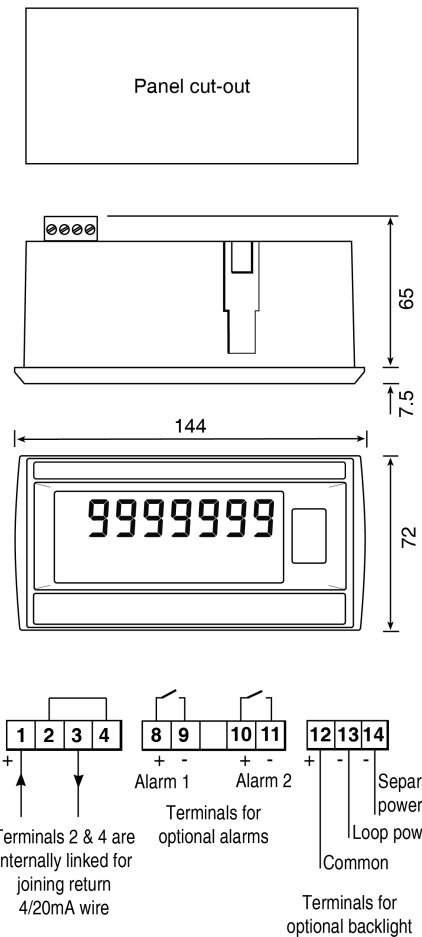

Fig 4 BA528E SP101 dimensions and terminals
Fig 4 shows the overall dimensions of the indicator together with the recommended panel cut-out dimensions. To achieve an IP66 seal between the instrument enclosure and the instrument panel the smaller tolerance aperture must be used, and the indicator must be secured with four panel mounting clamps.
- Cut the specified aperture in the panel. To achieve an IP66 seal between the instrument enclosure and the instrument panel the aperture must have the tighter tolerances specified in Fig 4.
- Connect the panel wiring to the rear terminal block(s) as shown in Fig 4. To simplify installation, the terminals are removable so that the panel wiring can be completed before the instrument is installed.